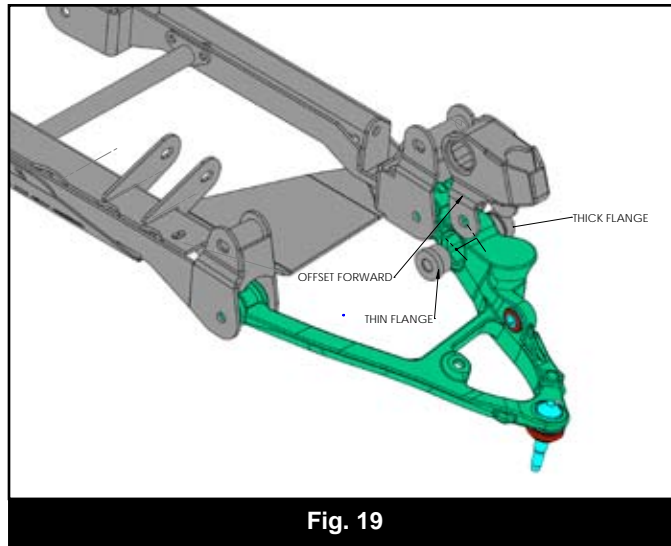

**Fig. 17**
35. Align the new front differential housing mount in the front crossmember tabs. Attach with a 9/16" x 4-1/2" bolt, nut, and washers from bolt pack #567 (Fig 17).